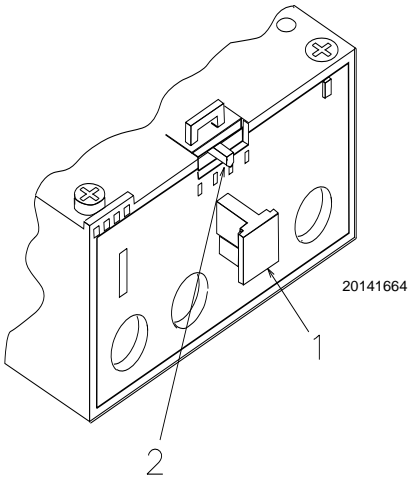

Fig. 31
- To reset, in case of an intervention of the thermal relay, press button 1)(Fig. 31).